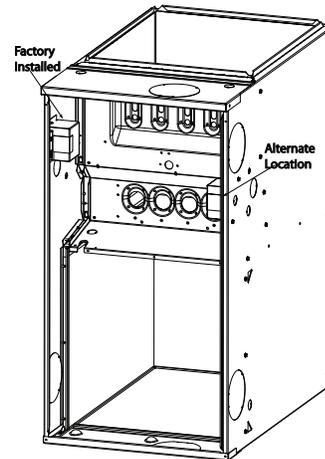

Fig. 23 – Relocating J-Box
1. Remove and save two screws holding J-Box. (See Fig. 23.)
NOTE: The J-Box cover need not be removed from the J-Box in order to move the J-Box. Do NOT remove green ground screw inside J-Box. (See Fig. 23.)
4. Remove and save two screws holding J-Box. (See Fig. 23.)